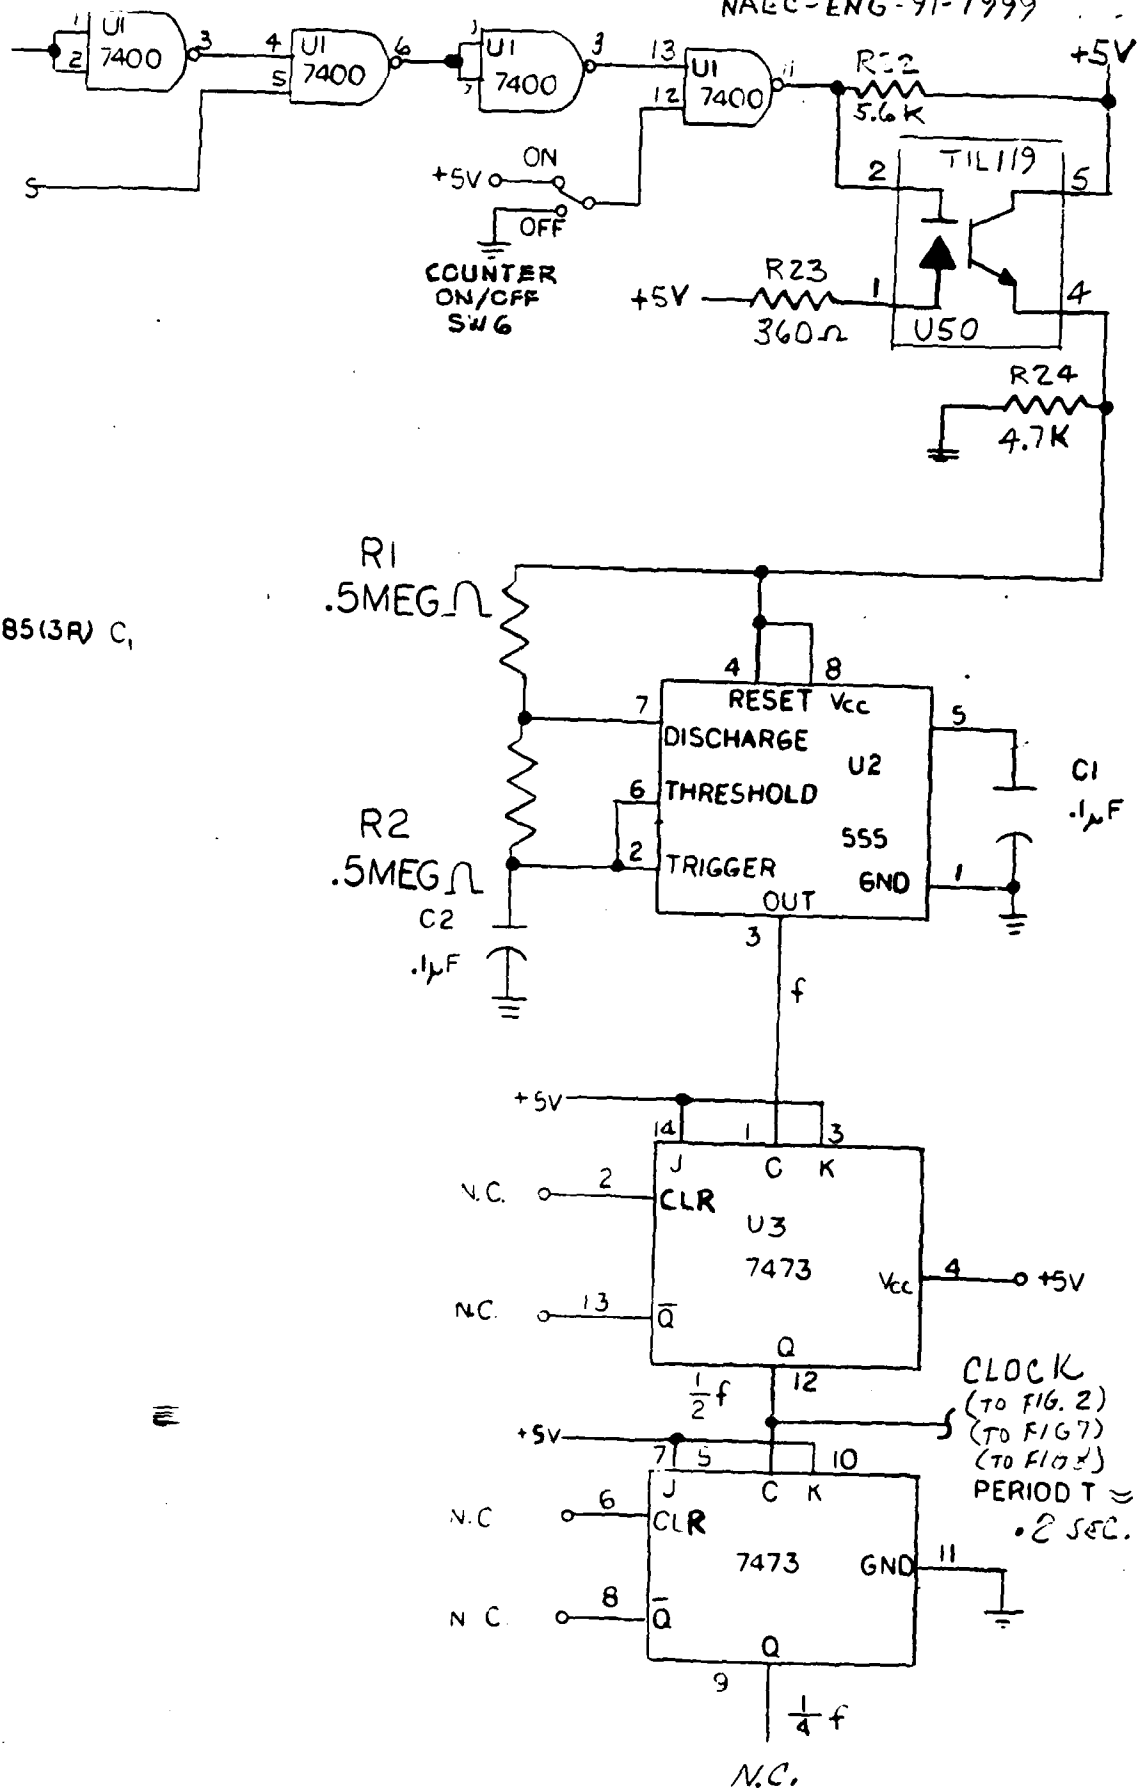

FIGURE 1
2. Figures 1 thru 18 and Table 2 describe equipment that can be manufactured to simplify testing.
Included in the following list of equipment is a card test fixture which is to be assembled to Figures 1 through 18.
(FIG 1)